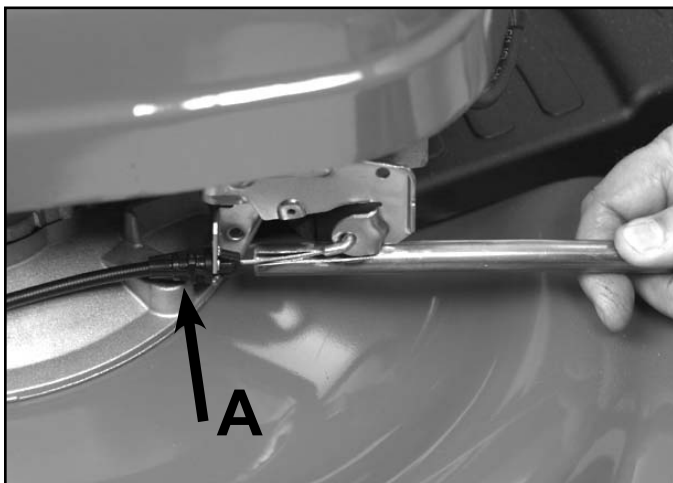

Fig 067
10. Remove the stop cable from the engine (Fig. 067) and disconnect the self propel cable spring from the transmission.